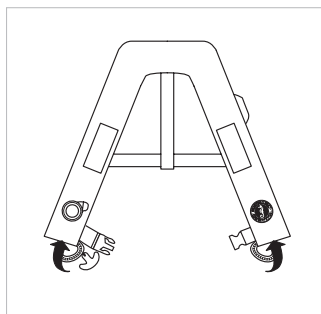

FIGURE 30 PUSH IN ENDS
- Use a finger to push the zipper ends into the openings at the bottom of the packed PFD (Fig. 30).